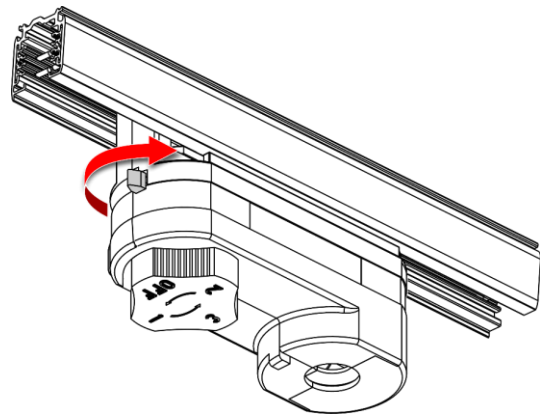

Fig. 08
- 03) Insert the **track adapter (01)** in the track and push it until it snaps into place.
- 04) Turn the **track lock (02)** clockwise to lock the device in the track, as shown in Fig. 08.